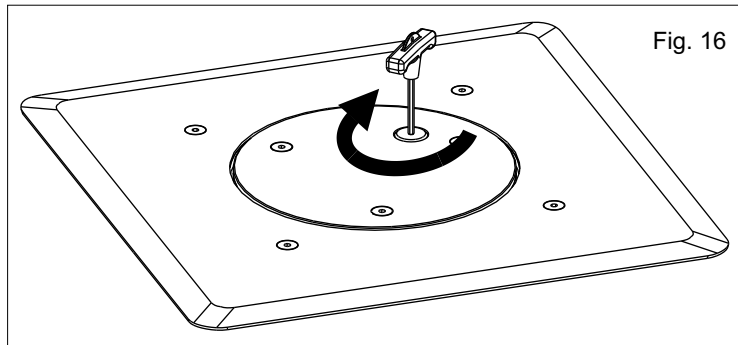

Fig. 16
**9.3.** When the bollard has completely gone down, relock the bollard rotating the key clockwise and re-screw the protection cover (Fig. 16).